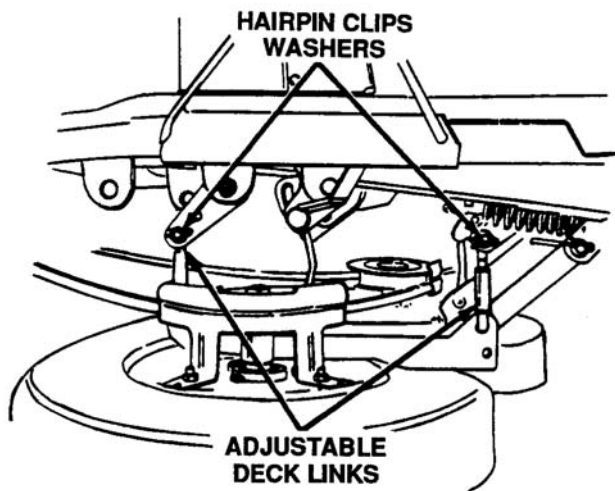

Figure 12-23. Location of Hairpin Clips, Washers and Deck Links
3. Disconnect the adjustable deck links from the deck lift pivot brackets on the left side of the unit by removing the hairpin clips and flat washers. See Figure 12-23.